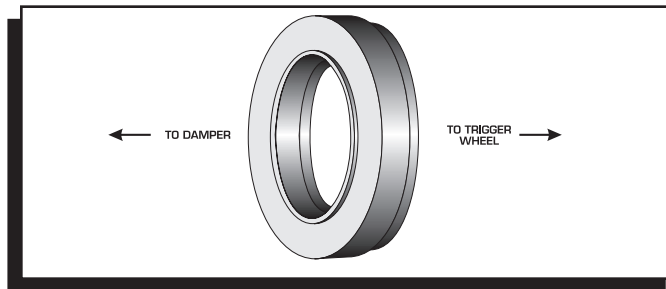

Figure 2 Centering Ring Installation.
The trigger wheel is designed so it can be used on engines with a dry sump oiling system as well as stock dampers. Two centering rings are included; one for use on stock or most aftermarket dampers and one for use with a dry sump pump drive mandrel (Figure 2).
2. Install the trigger wheel centering ring onto the trigger wheel (Figure 2).